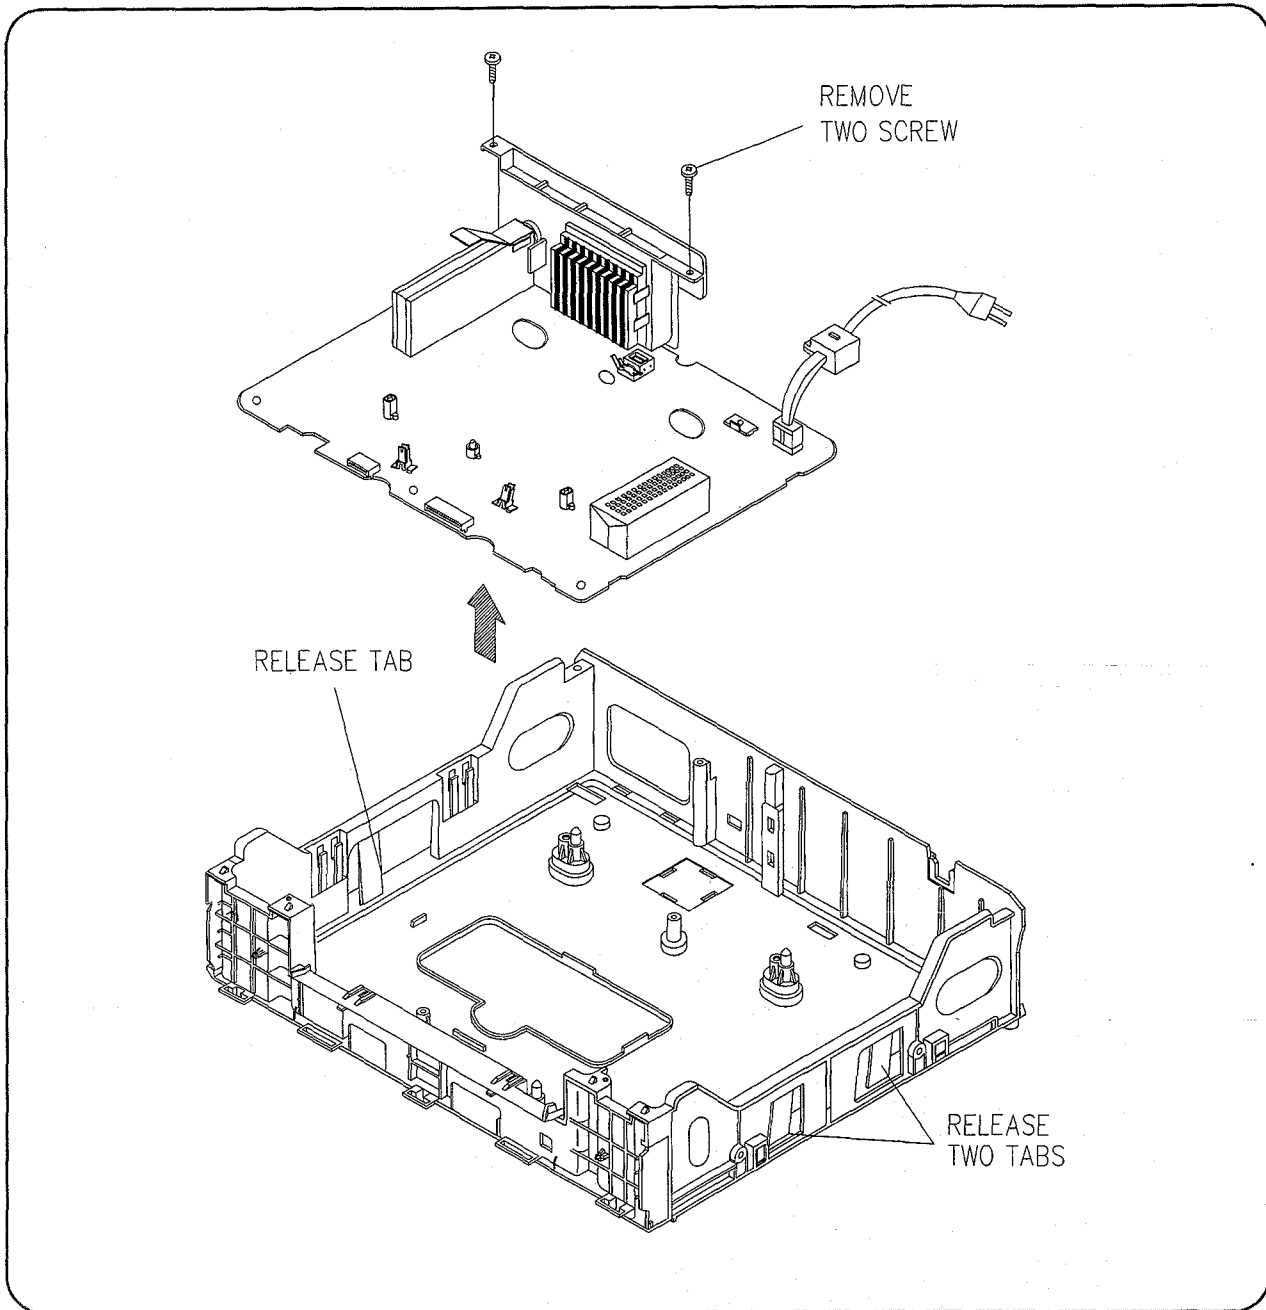

FIG. 7
7. DECK AS / PCB HEAD AMP AS REMOVAL (FIG. 7)